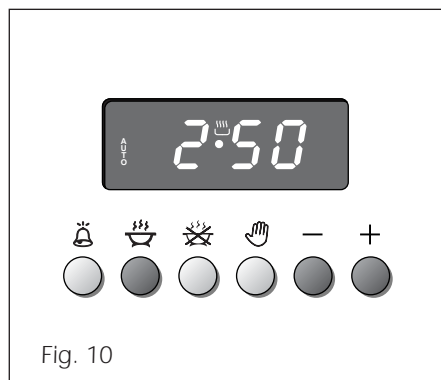

Fig. 10
1. Set the length of the cooking time by pushing the  button and the  button to advance, or  to go backwards if you have passed the desired time (Fig. 10).